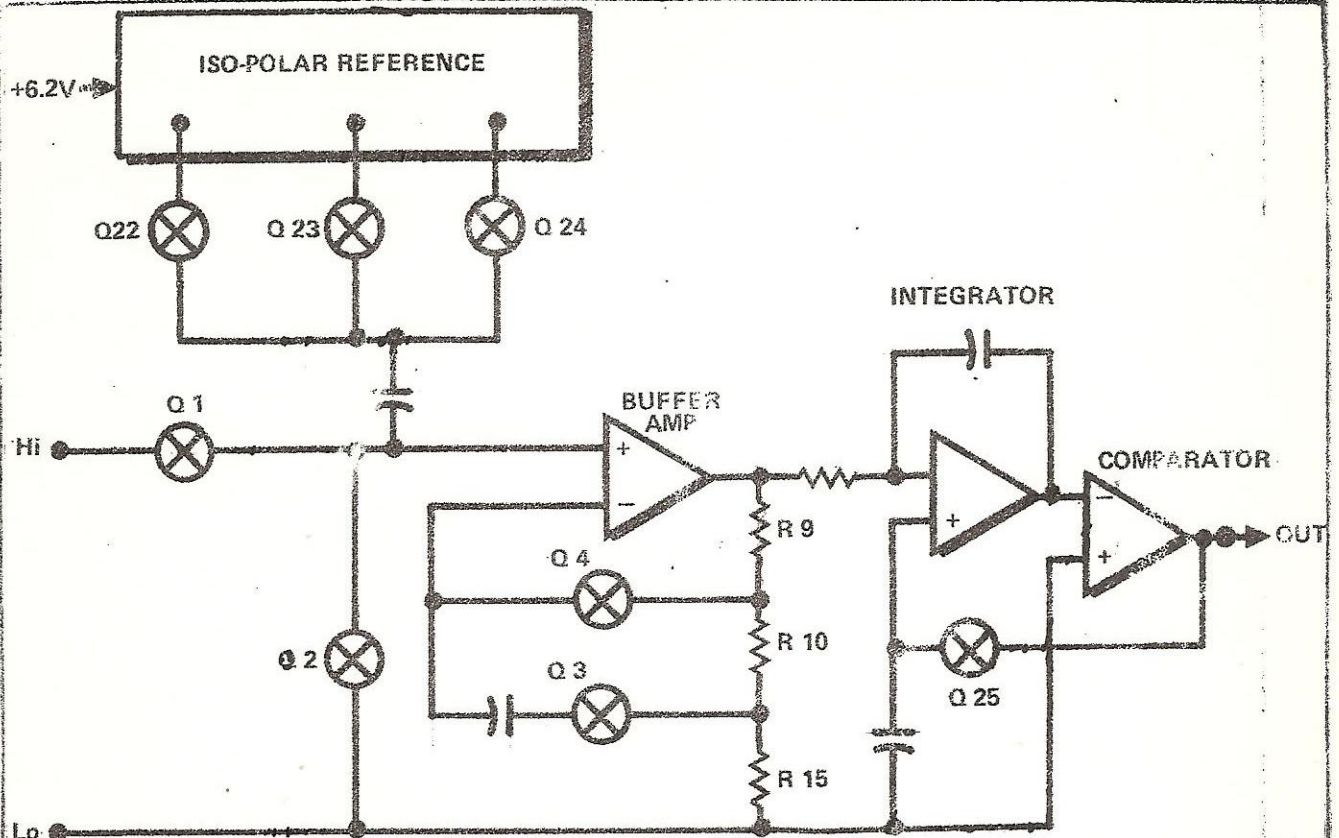

Fig. 4-10C A/D Converter Modification for A1 Option
b. Tri-Phasic A/D Converter (See A/D Converter Modification, Figure 4-10C)
When the 0.1V range is selected, the A/D Converter gain is controlled during the three phases of the conversion cycle by the FE₁ switches according to the tabular listing below. The revised schematic of figure 4-10C shows the location of the switches and their effect on the circuit.